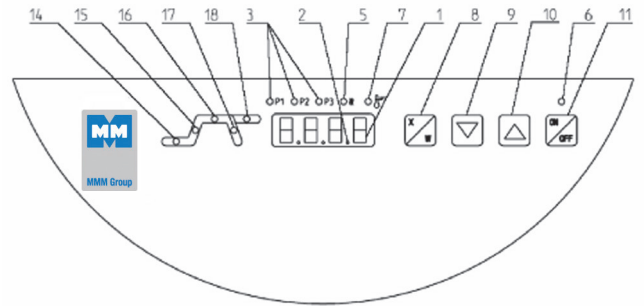

Fig. 3
-  **Any assembly or disassembly may be done only when disconnected from the mains! After switching the unit off with the key (key 11, fig. 3) the unit comes only to a stand-by mode, however, it is not disconnected from the mains!**
2. Press the button **X/W**. The indicators 15 and 16 (Fig. 3) start flashing. Using the buttons ▼ ▲, set the required temperature [°C] on the display. The least adjustable and displayable temperature interval is 1 °C. The segments indicators still flash.
3. Enter the phase of the time-delayed switching-off by pressing **X/W**. Using the buttons ▼ ▲, set the required value in hours and minutes (from 0 to 99 h 59 min) on the display. The indicators 16 and 17 (Fig. 3) will flash. The symbol "∞" means a time unlimited exposure. After 99 hours: 59 min, time is displayed in hours only and after 999 hours, it is displayed by ∞ symbol (infinity). When printing the record in the printer, time is shown in the hhh:mm format; after exceeding 999:59, the text „infini“ is printed.
5. By pressing the button **X/W**, enter the phase of the time-delayed switching-on. Using the buttons ▼ ▲, set the required value in minutes from 0 to 99 hours 59 min. The indicator 14 (Fig. 3) flashes.